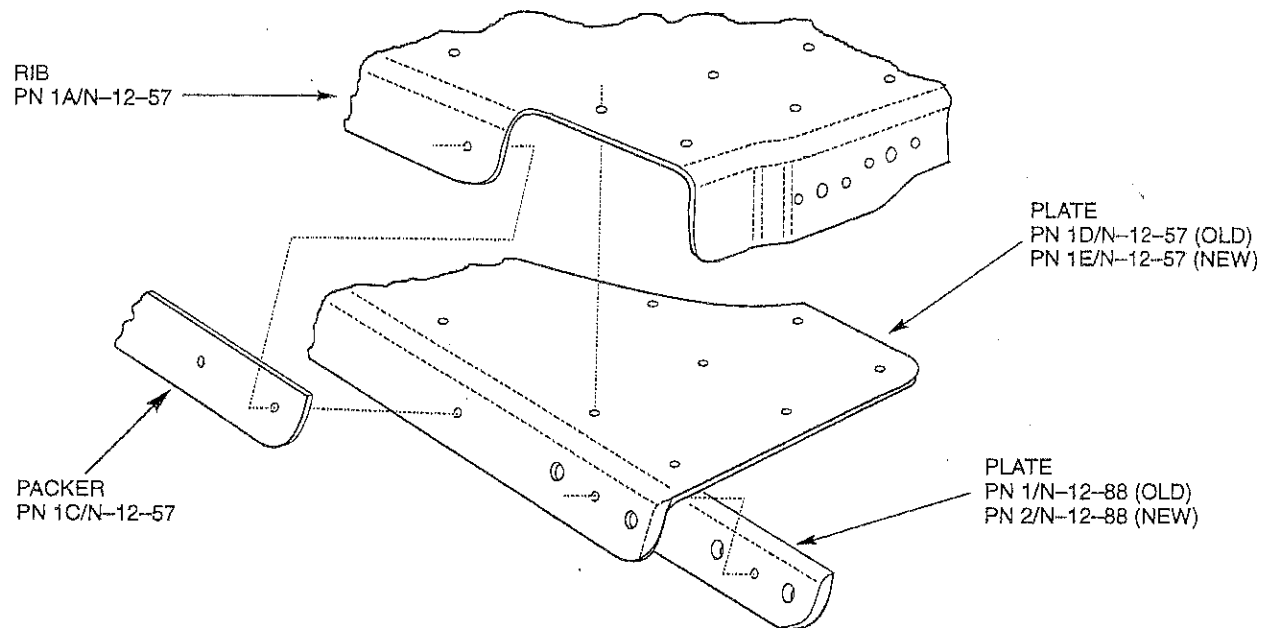

Figure 2 Exploded View of Rib Assembly
- J. Refer to Figure 2 for identification of parts. Carefully derivet Rib Assembly WL 138.87 complete with Rib PN 1A/N-12-57, Packer PN 1C/N-12-57, Plate PN 1D/N-12-57, Plate PN 1/N-12-88 and Fin Attachment Channel Assembly. Remove rib assembly.